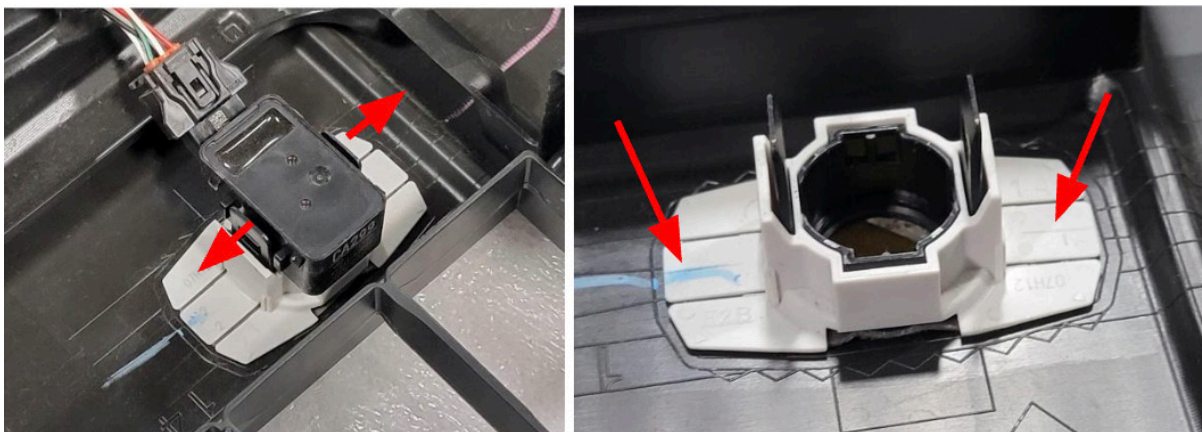

Figure 15-16.
14. Remove the four (4) parking sensors from the bumper by carefully pulling the black clips away from the sensor and pulling the sensor up out of the housing. Using a panel pry tool, separate the sensor housing from the bumper fascia. Figure 15-16.